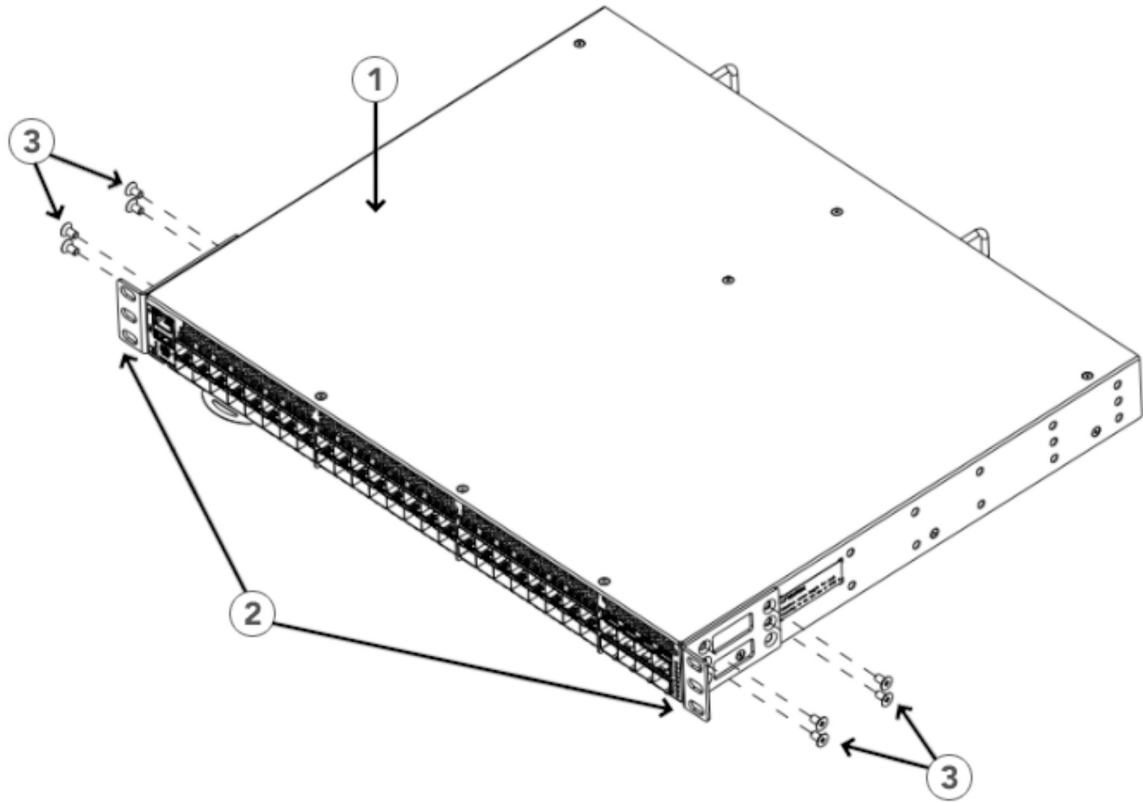

Figure 5. Attaching the front brackets
1. Position the right front bracket with the flat side against the right side of the device at the front of the device, as shown in Figure 5 on page 15.